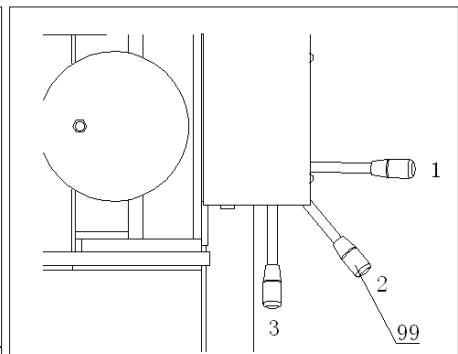

Fig.13
• 3 positions for the handle lever of selector valve: When it is in position 1, the piston rod is retracting;When it is in position 2, the piston rod is stopping moving;When it is in position 3, the piston rod is extending. Fig.13
• Turn the handle lever (99) to position 3, then depress the air foot valve (P54), and the piston rod will extend quickly.Warning:NEVER operate manually (Manual Low Pressure) simultaneously.
• Release the pressure: turn the handle lever (99) to position 2, the pressure on the piston rod will release automatically.
• Retraction of piston rod:turn the handle lever (99) to position 1, operate by air or manual.NEVER operate manually (Manual Low Pressure) at the same time.